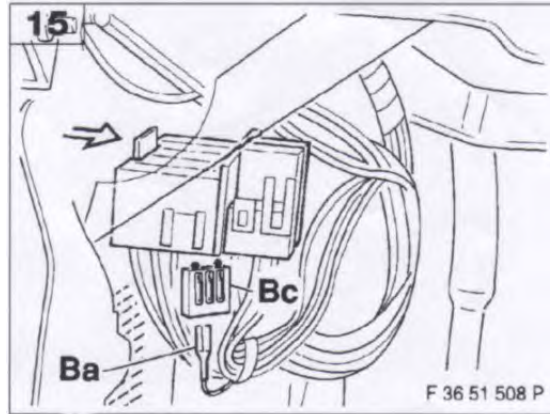

Figure 6 – Removing the Fan Connector
5.7 Remove Fan Connector, AKA Terminal Block (Figure 6). Above the speaker and below the dash is the Fan Connector. It is a black box, where a bunch of wires dead-end into it. Wires of the same color are bundled together into a single connector and the connector clips into the box. You can pry out the connectors with a flathead. In order to remove the fuse box, you'll first need to remove fan connector box. Along the upper edge of the box, closest to the wall, there is a tab you need to pull toward the center of the car and then push the entire box up and in toward center of car. It just comes off. I removed it by sliding my whole hand under the box with your palm flush on the wall and your thumb on the side of the box facing rear of car.